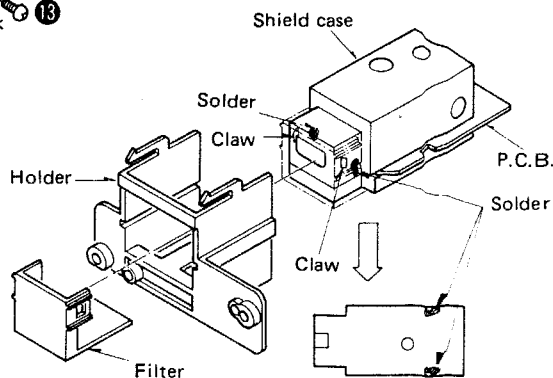

Fig. 6
3. To remove the parts on P.C.B. . . . [Fig. 6]
- ① Hold the 2 claws of shield case, then remove the filter.
- ② Pull the holder out of the P.C.B.
- ③ Remove solder at 4 portions of the shield case.